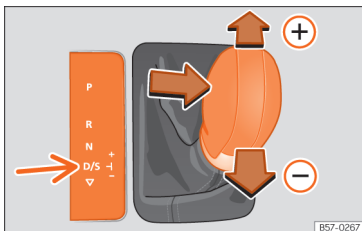

Fig. 88 Lever in the Tiptronic position
- Move the lever forwards **+** or backwards **-** to change up or down a gear **»» Fig. 88**.